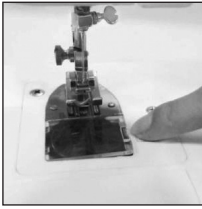

Fig.7
- (1) Slide the bobbin cover button to the right and remove the bobbin cover (Fig.7).